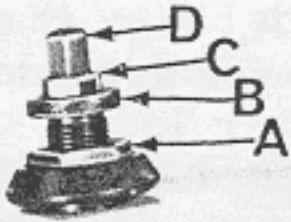

Fig. 2
Sufficient presser foot pressure to feed work uniformly should be maintained. Should it be necessary to increase or decrease amount of pressure on presser foot, loosen lock nut (A, Fig. 2) and turn adjusting screw (B). Adjusting screw has a right hand thread, so tightening increases pressure, loosening decreases pressure. When pressure adjusting screw (B) has been properly set, tighten lock nut (A). With presser foot resting on throat plate, position locking nut (C) so that its under surface is approximately $1/32$ inch to $1/16$ inch from the top surface of adjusting screw (B). Set cap (D) against locking nut (C).